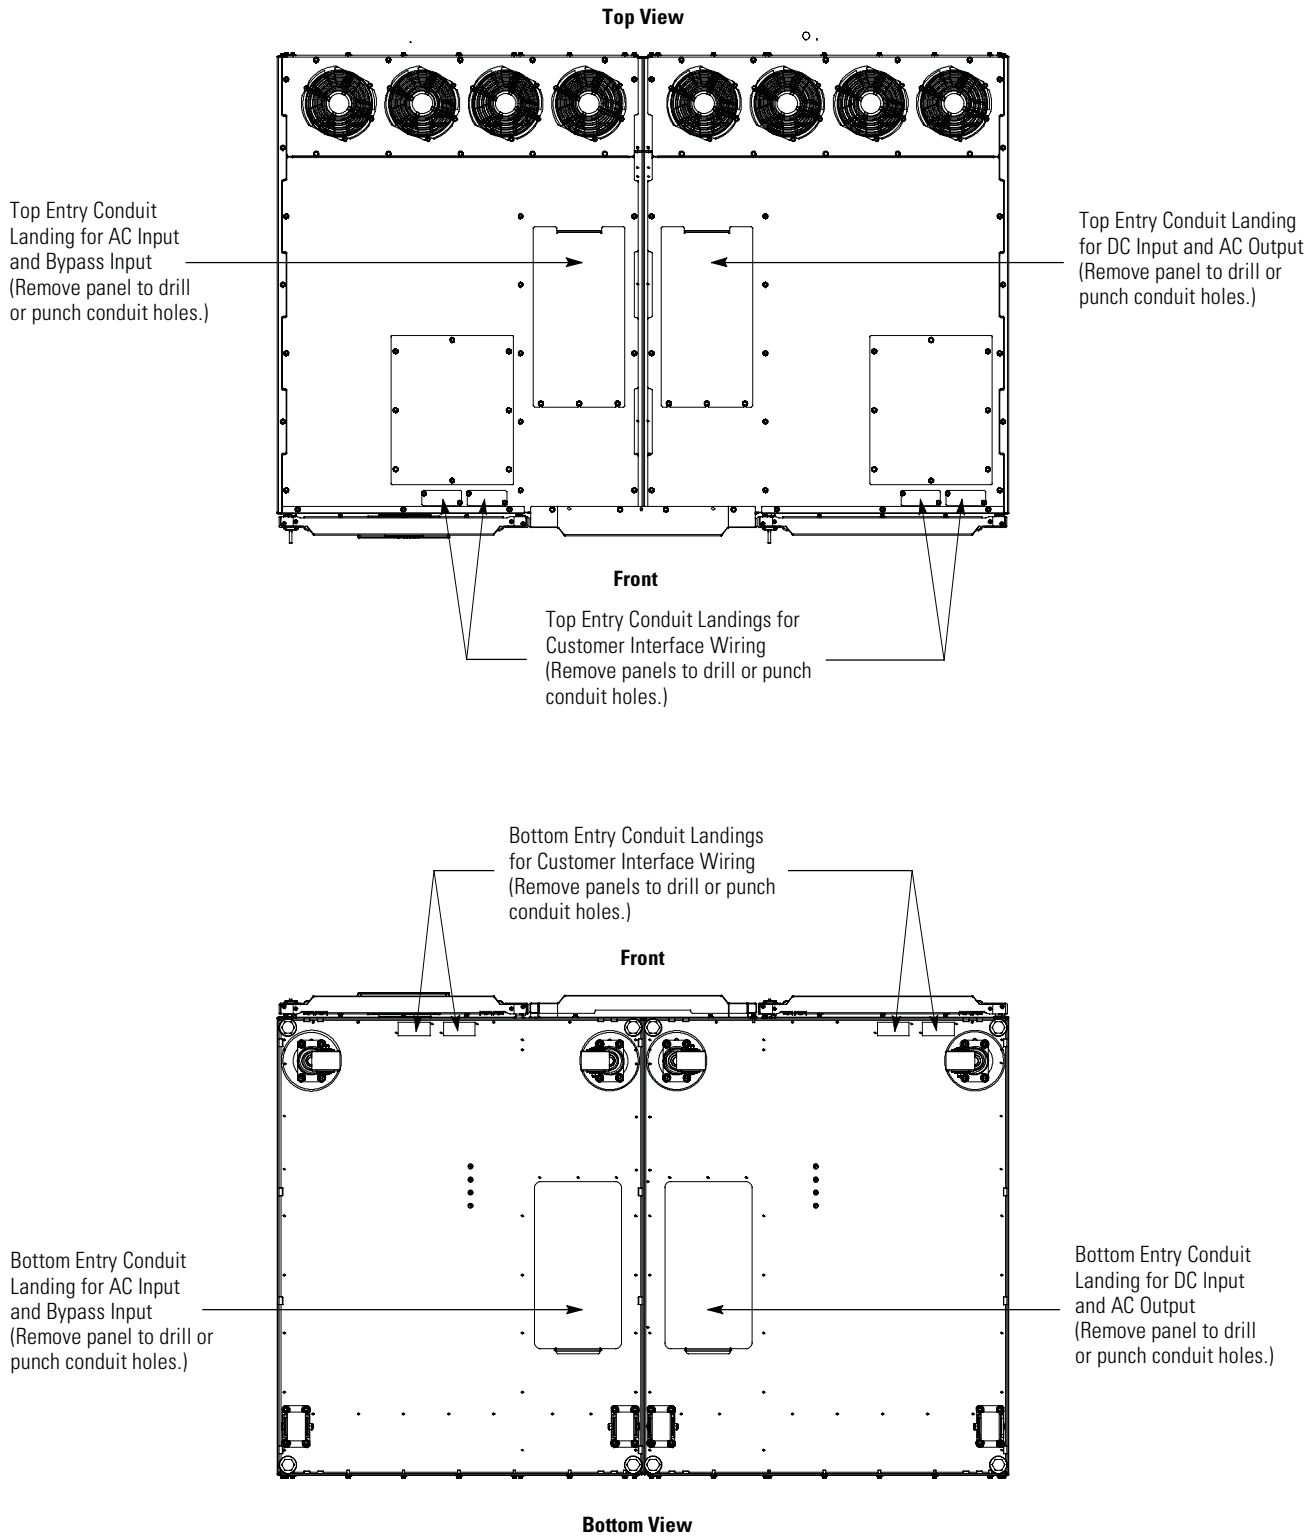
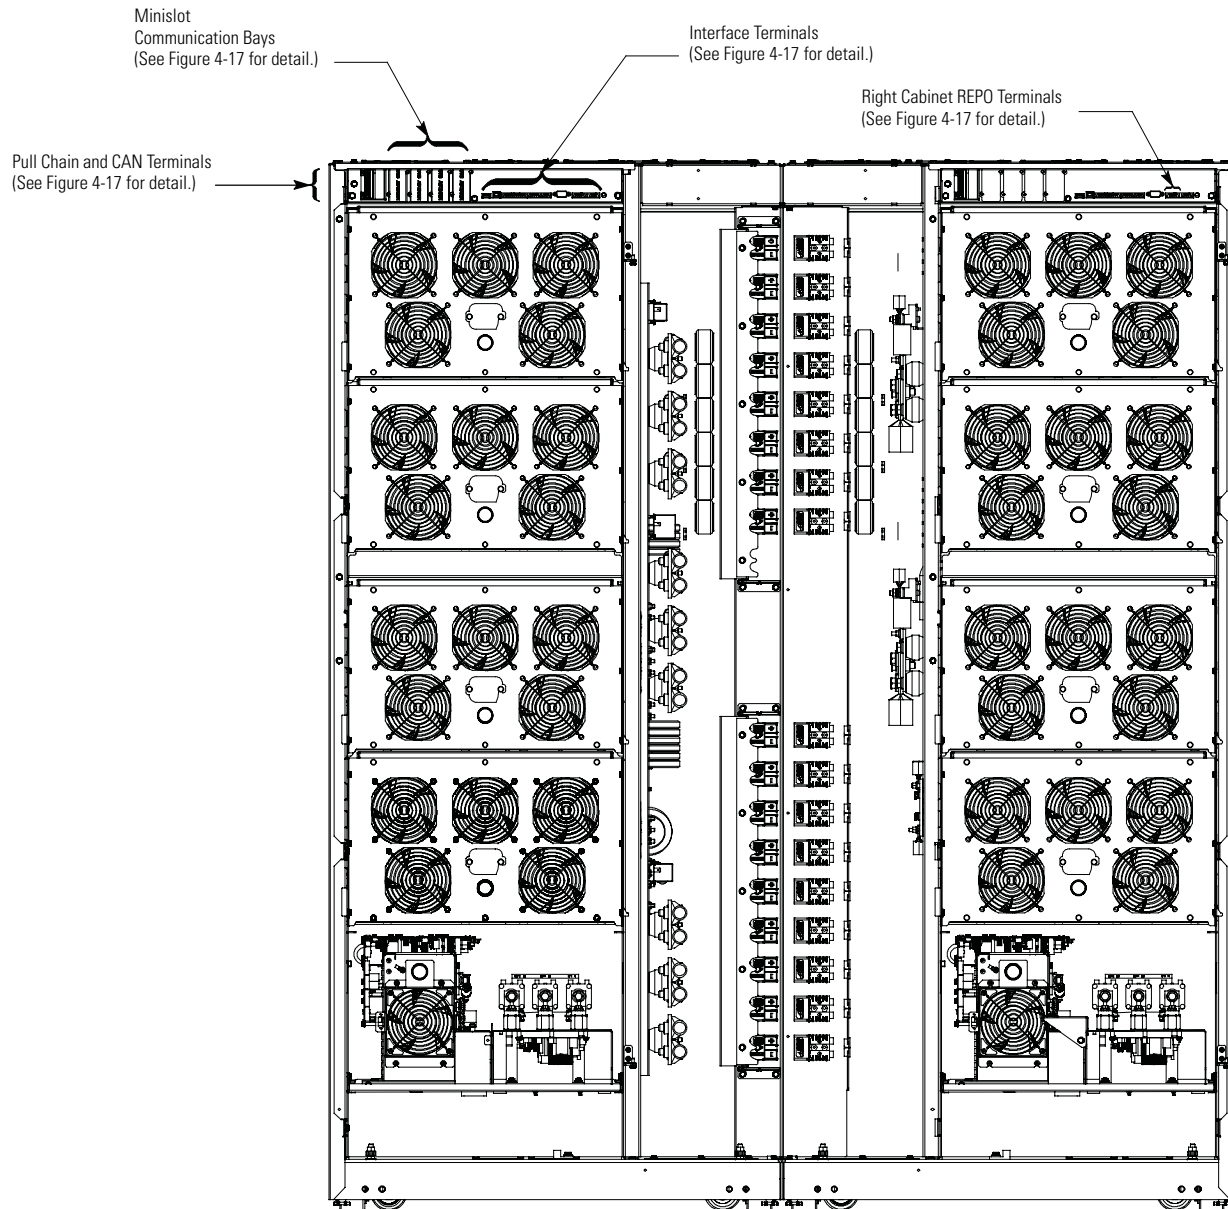
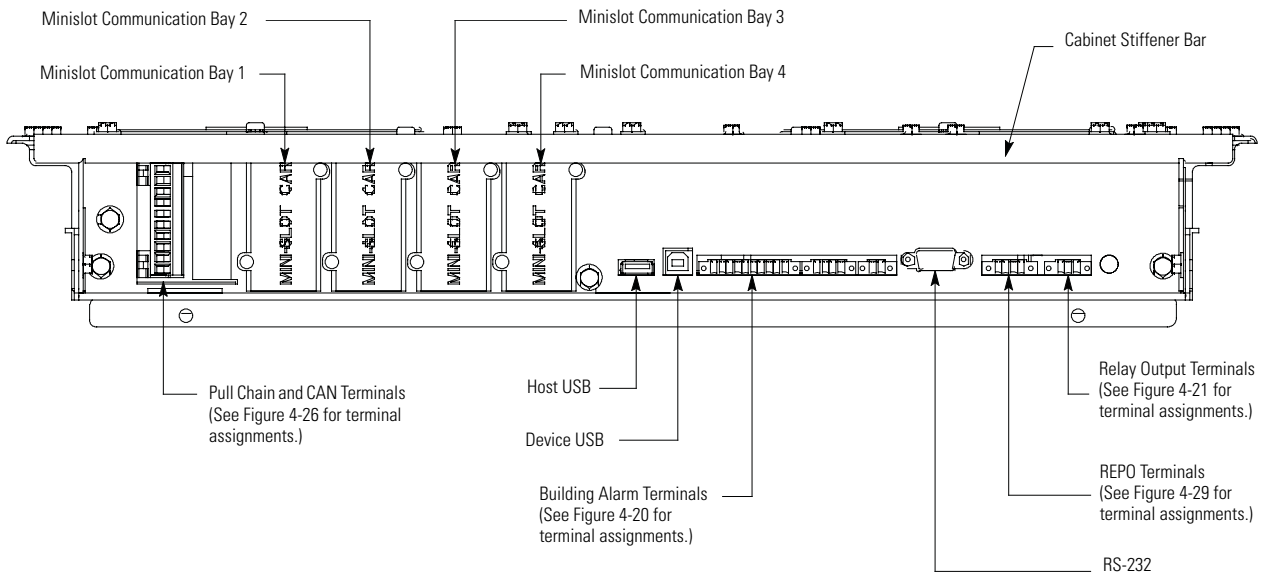
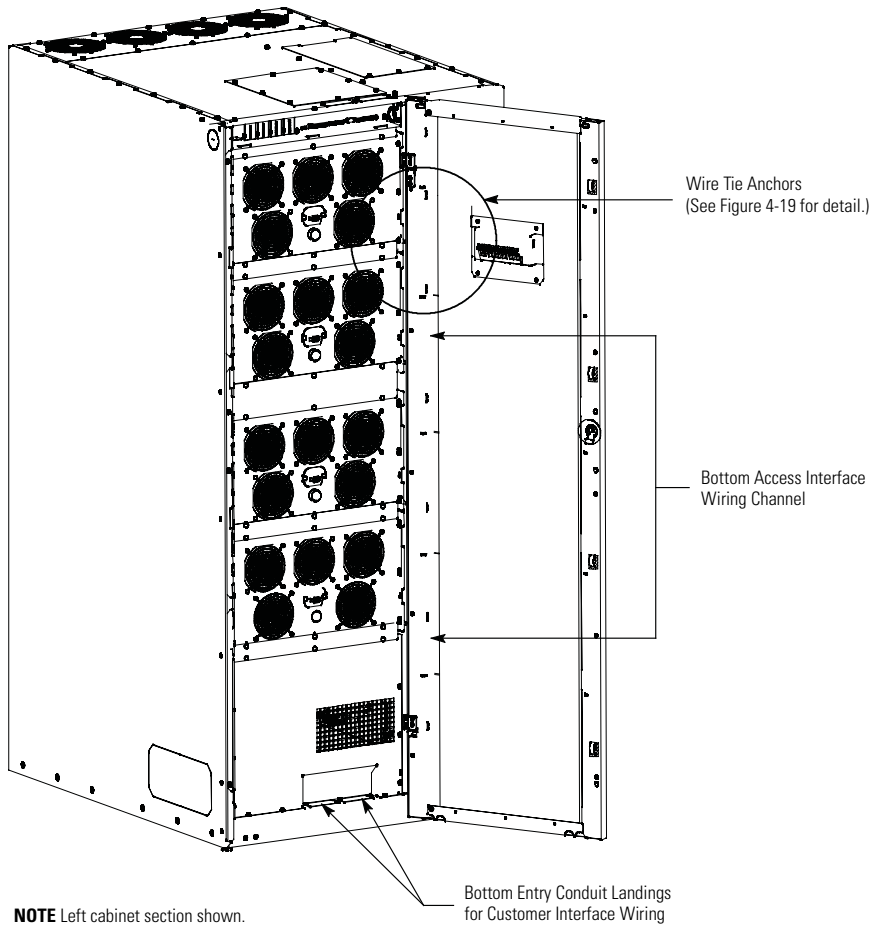

Figure 4-9. UPS Conduit and Wire Entry Locations
Figure 4-16. Interface Terminal Locations
Figure 4-17. Interface Terminal Detail
Figure 4-18. Typical Bottom Access Interface Wiring Location
5. **Bottom Entry Wiring.** Remove the bottom conduit plate (see Figure 4-9) from the inside bottom of the UPS. Identify all conduit requirements and mark their location. Drill and punch all conduit holes in the bottom conduit plate prior to mounting on the UPS. Install the conduit plate and install all conduit runs into the plate. Pull the wiring through conduit into the wiring area.
6. Route the input and output cables through the bottom of the cabinet to the UPS terminals. See Figure 4-9 for wiring access information, and Figure 4-11 and Figure 4-12 for terminal locations.
8. **Top Entry Wiring.** Remove the top conduit plate (see Figure 4-9) from the top of the cabinet. Identify all conduit requirements and mark their location. Drill and punch all conduit holes in the top conduit plate prior to mounting. Install the conduit plate and install all conduit runs into the plate. Pull the wiring through the conduit into the wiring area.
9. Route the input and output cables through the top of the UPS cabinet to the UPS terminals. See Figure 4-9 for wiring access information, and Figure 4-11 and Figure 4-12 for terminal locations.
1. Route and connect the battery cables between the UPS and battery cabinet or battery disconnect according to the instructions in the *Eaton 93PM Integrated Battery Cabinet Installation Manual – Large and Large High Rate* or the *Eaton 93PM Universal Integrated Battery Cabinet Installation Manual-Large and Large High Rate*, listed in paragraph 1.8. See Figure 4-9 and Figure 4-10 for wiring access information, and Figure 4-14 for terminal locations.
4. **Top Entry Wiring.** Remove the top interface entry conduit landing plates to drill or punch holes (see Figure 4-9).
6. Route the UPS building alarm and relay output interface wiring through the top interface entry conduit landing plates to the UPS building alarm and relay output terminals. See Figure 4-9 for wiring access information, and Figure 4-16 and Figure 4-17 for UPS interface terminal locations.
8. **Bottom Entry Wiring.** Remove the bottom interface entry conduit landing plates to drill or punch holes (see Figure 4-18).
10. Route the UPS building alarm and relay output interface wiring through the bottom interface entry conduit landing plates to the bottom access interface wiring channel along the inside of the front door (see Figure 4-18).
11. Route the wiring along the interface wiring channel (see Figure 4-18) to the UPS building alarm and relay output terminals. See Figure 4-16 and Figure 4-17 for UPS interface terminal locations.
4. **Pass-through Wiring.** Route the battery detect wiring from the battery cabinet through the top UPS inter-cabinet wiring access pass-through to the UPS building alarm terminals. See Figure 4-10 for UPS wiring access information, and Figure 4-16 and Figure 4-17 for UPS terminal locations. Refer to the *Eaton 93PM Integrated Battery Cabinet Installation Manual – Large and Large High Rate* or the *Eaton 93PM Universal Integrated Battery Cabinet Installation Manual-Large and Large High Rate*, listed in paragraph 1.8, for battery cabinet wiring access information and instructions.
6. **Bottom Entry Wiring.** Remove the bottom interface entry conduit landing plate to drill or punch holes (see Figure 4-18).
8. Route the battery detect wiring from the battery cabinet through the bottom interface entry conduit landing plate to the bottom access interface wiring channel along the inside of the front door (see Figure 4-18). Refer to the *Eaton 93PM Integrated Battery Cabinet Installation Manual – Large and Large High Rate* or the *Eaton 93PM Universal Integrated Battery Cabinet Installation Manual-Large and Large High Rate*, listed in paragraph 1.8, for battery cabinet wiring access information and instructions.
9. Route the wiring along the interface wiring channel (see Figure 4-18) to the UPS building alarm terminals. See Figure 4-16 and Figure 4-17 for UPS interface terminal locations.
12. **Top Entry Wiring.** Remove the top interface entry conduit landing plate to drill or punch holes (see Figure 4-9).
14. Route the battery detect wiring from the battery cabinet through the top interface entry conduit landing plate to the UPS building alarm terminals. See Figure 4-9 for wiring access information, and Figure 4-16 and Figure 4-17 for UPS interface terminal locations. Refer to the *Eaton 93PM Integrated Battery Cabinet Installation Manual – Large and Large High Rate* or the *Eaton 93PM Universal Integrated Battery Cabinet Installation Manual-Large and Large High Rate*, listed in paragraph 1.8, for battery cabinet wiring access information and instructions.
6. Route the UPS building alarm interface wiring through the top interface entry conduit landing plates to the UPS building alarm terminals. See Figure 4-9 for wiring access information, and Figure 4-16 and Figure 4-17 for UPS interface terminal locations.
10. Route the UPS building alarm interface wiring through the bottom interface entry conduit landing plates to the bottom access interface wiring channel along the inside of the front door (see Figure 4-18).